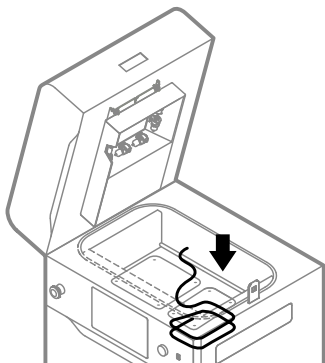

Fig. 13.34 Put on new fibreglass sealing.
19. Put on a new fibreglass rope by wrapping it **four times** (for 6 [mm] rope) or **two times** (for 10 [mm] rope) around the Print Bed. Remember not to stretch the fibreglass rope (fig. 13.34).